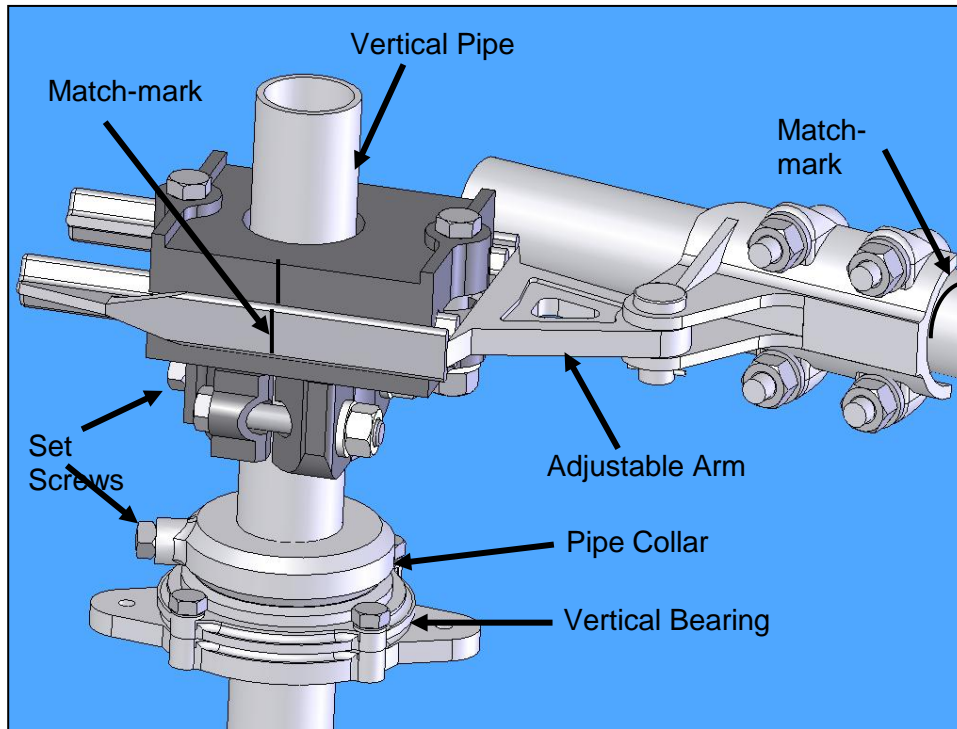
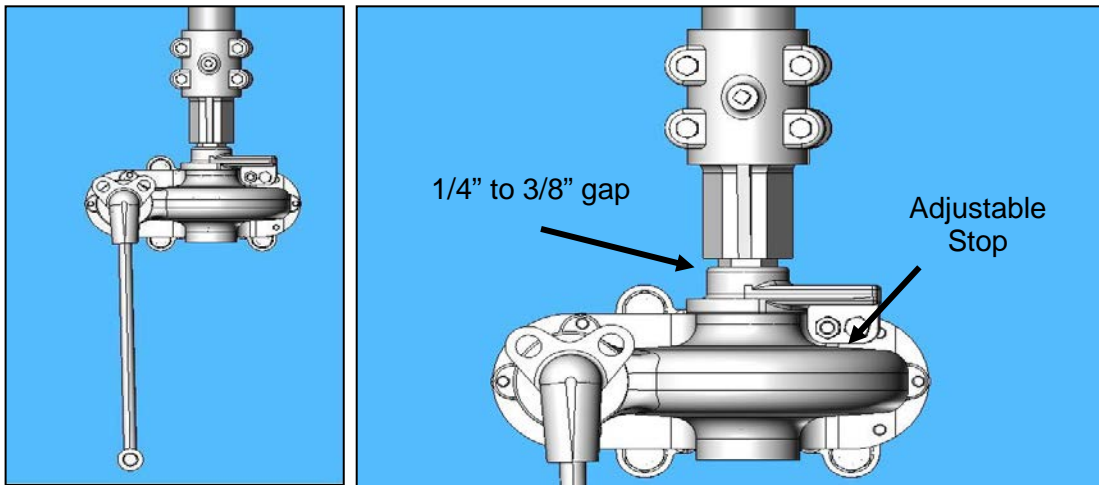

Figure 14: Typical Operating Arrangement
Figure 15: Type HOGO (High Output Geared Operator) Front View
▲ CAUTION The pipe collar (above the vertical bearing) must support the entire weight of the vertical operating pipe. To prevent unnecessary component damage, **do not allow the pipe to rest on the switch operating device**. Refer to **Figure 14**.
5. After mounting all op-mech components, match-mark all clevis connections, the adjustable arm, and the switch operating devices' coupling, so that any slippage occurring during trial operations can be readily detected. Refer to **Figure 14**.
- 2.1.1. The weight of the vertical operating pipe should be supported by pipe collar (**Figure 14**) by maintaining the 1/4" - 3/8" gap (**Figure 15**).
2.1.2. When the switch is properly adjusted the operator handle should hang freely in both the open and closed positions to permit the use of a customer supplied padlock. Refer to **Figure 15**.
- 4.3. If the switch **does not** fully open before the operator reaches the fully open position, the adjustable arm radius is too short. Close the switch, match-mark the adjustable arm and the pipe clevis, and loosen the bolts on the adjustable arm and pipe clevis. **Lengthen the adjustable radius arm approximately 1/4". Allow the pipe clevis to reposition itself the same 1/4".** Refer to **Figure 15**. Test operation and readjust as necessary.
- 4.4. If the switch is fully open before the operator reaches the fully open position, the adjustable arm radius is too long. Close the switch, match-mark the adjustable arm and the pipe clevis, and loosen the bolts on the adjustable arm and pipe clevis. **Shorten the adjustable radius arm approximately 1/4". Allow the pipe clevis to reposition itself the same 1/4".** Refer to **Figure 15**. Test operation and readjust as necessary.